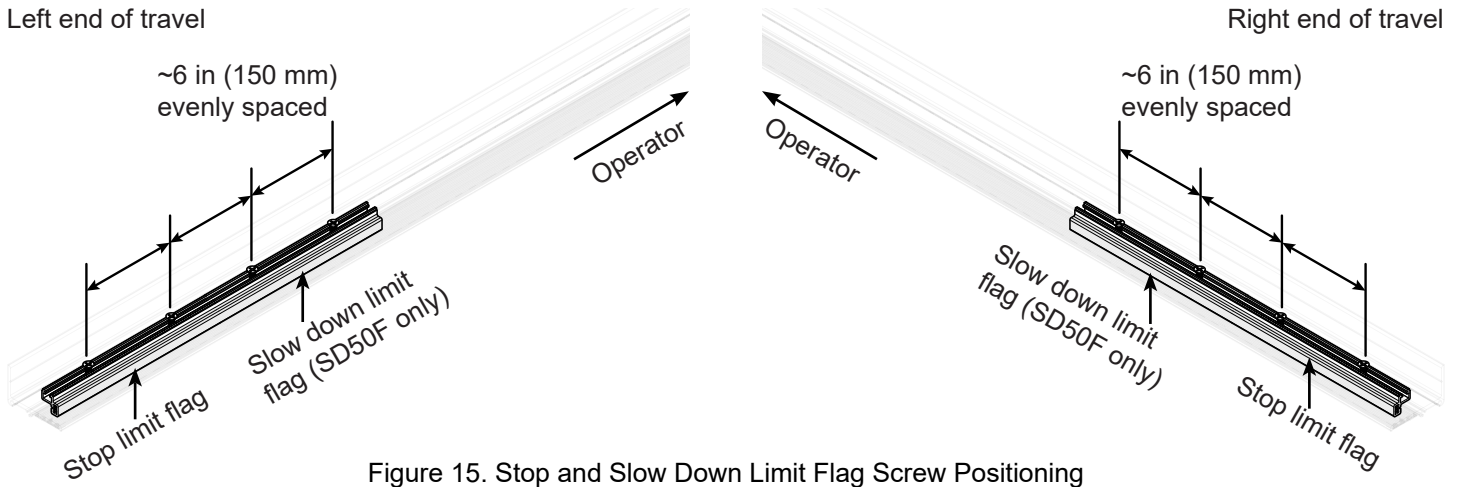

Figure 15. Stop and Slow Down Limit Flag Screw Positioning
13. Install more screws spaced approximately 6 in (152 mm) along the limit flag. 2 screws for a 12 in limit flag or 4 screws for a 24 in limit flag (Figure 15).